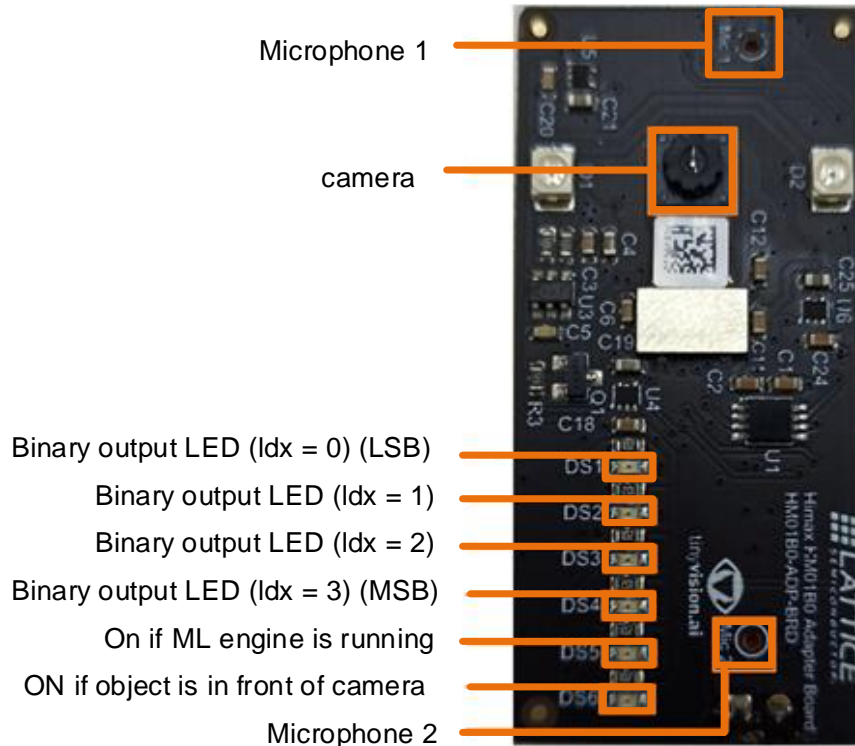

Figure 5.1. Camera and LED Location
2. Show the gesture in front of the board, which results to the LEDs to turn on. Refer to Figure 5.1 for the LED information.